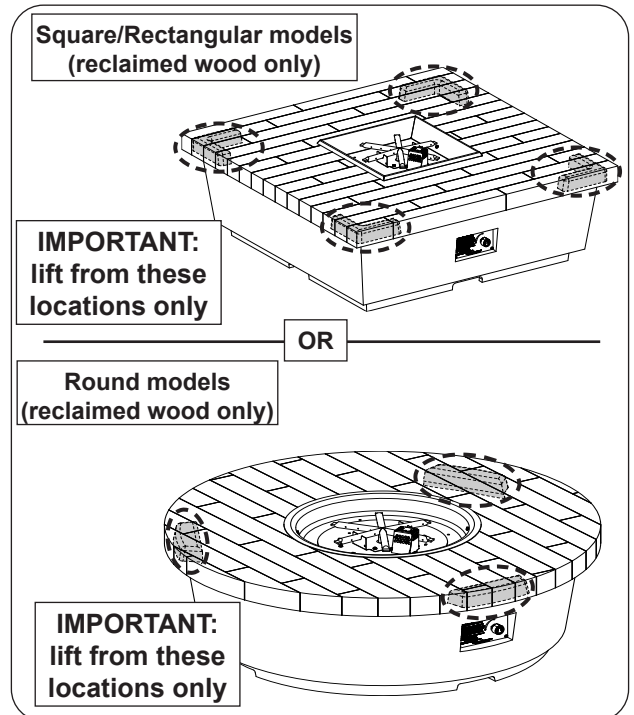

Fig. 24-2 Handling unit detail (if applicable)
**Important:** For reclaimed wood models, only lift the unit from the lift points (see Fig. 24-2). **DO NOT lift from the tabletop.**